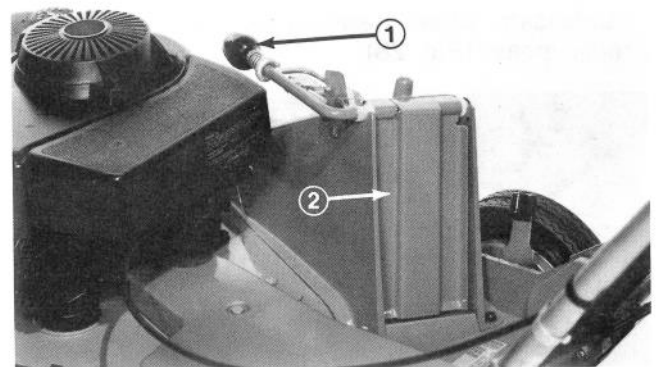

Figure 25
1. Squeeze lockout lever, move chute door handle fully forward, and release lever into housing latch (Fig. 25). The chute door in mower housing is now closed, and mower is ready for mowing operation.